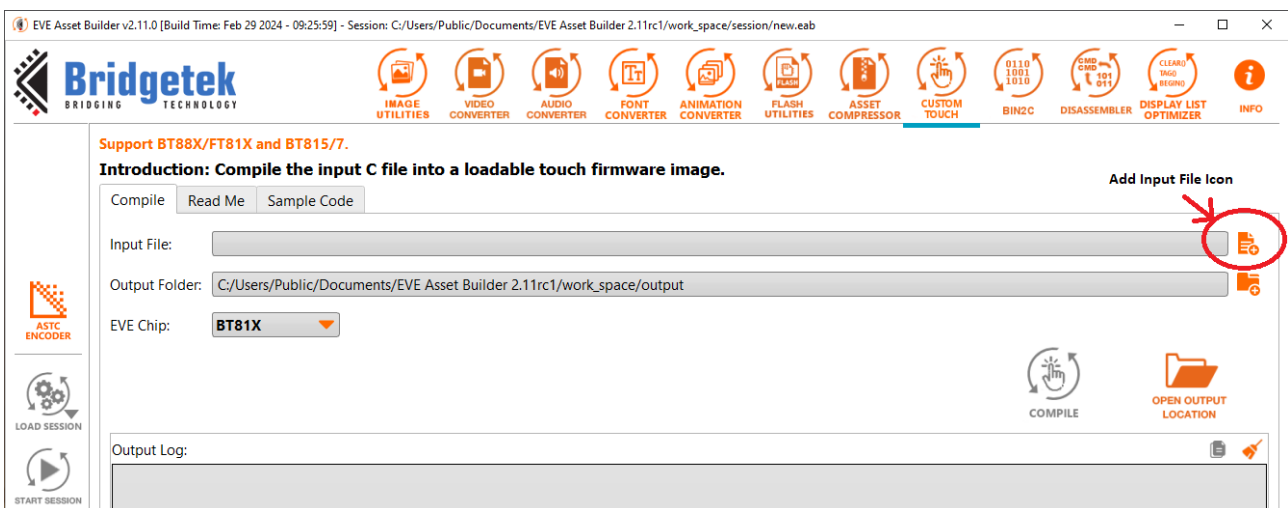

Figure 4 – EVE Asset Builder –Add Input File
2. Click on the “Add input file icon” to add the file of the desired custom touch source code as shown in Figure 4.